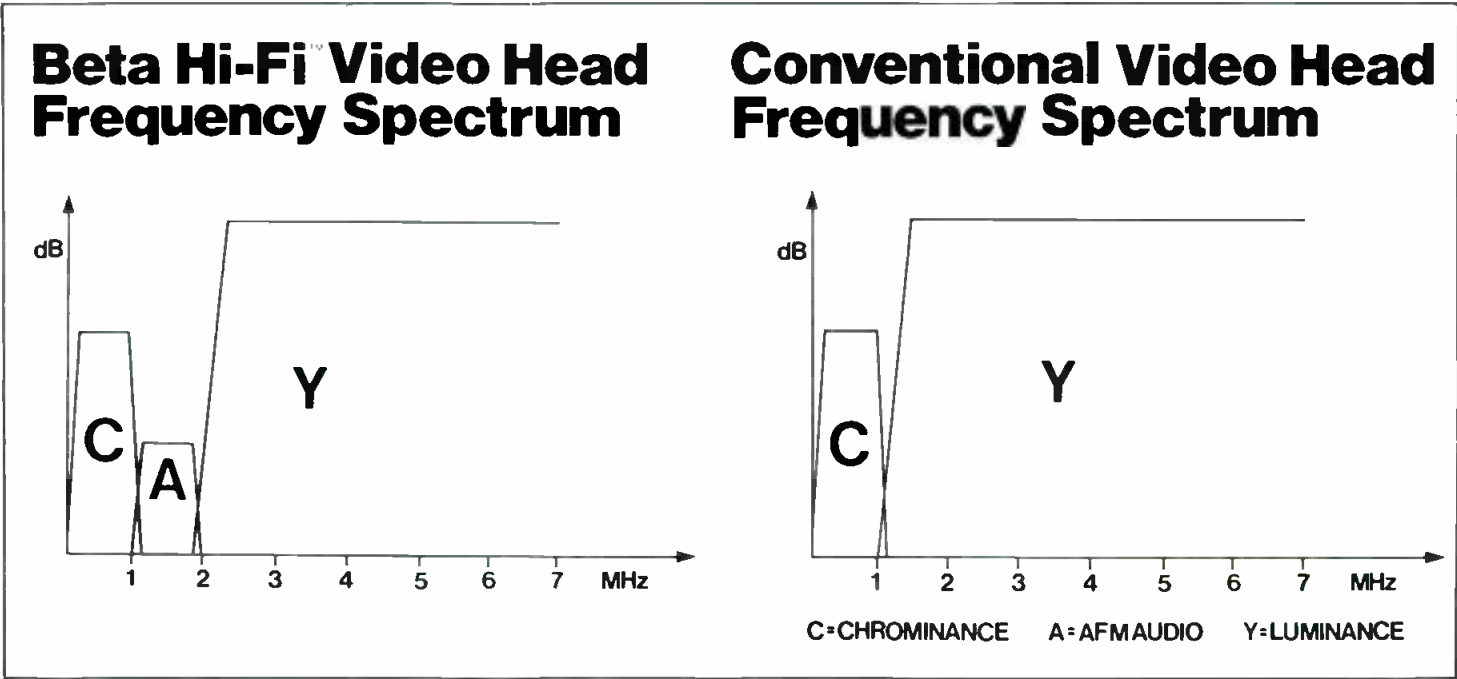

Figure 2. Comparison chart of video head frequency spectrum.
Las Vegas, turns out to be neither PCM digital, nor formed of a color stripe on the edge of the picture (ala Grumman's answer for more audio channels in video). Rather, it comes closer to that obscure Hitachi paper which I quoted earlier, in that it utilizes FM carriers which are modulated by left and right channel audio information. The two extra carriers are nestled in between the chrominance and luminance channels currently used in recording video using the Beta format, as illustrated in simplified form in the lower diagram of FIGURE 2. (In reality, the block of frequencies labeled "A" for AFM audio consists of two separate and discrete carriers—one for left chan-
20 Hz to 20,000 Hz. These performance specifications are summarized and compared with the results presently available from the audio track of a conventional Beta machine in FIGURE 2. (VHS types do just about as poorly, incidentally.)
Figure 2. The DATE system's digital compression. In a low-level signal (A), when the three most-significant bits are 0, the transmitted law bit is 0. At higher levels (B), all three MSBs are not 0, and the law bit becomes 1. In this case the three least-significant bits are discarded.
FIGURE 2 explains the general principle employed for the compression.